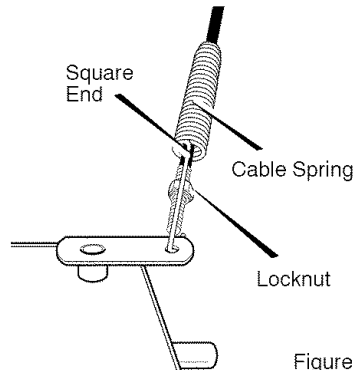

Figure 39
3. Push cable through spring to expose the threaded portion of the cable (see Figure 39).